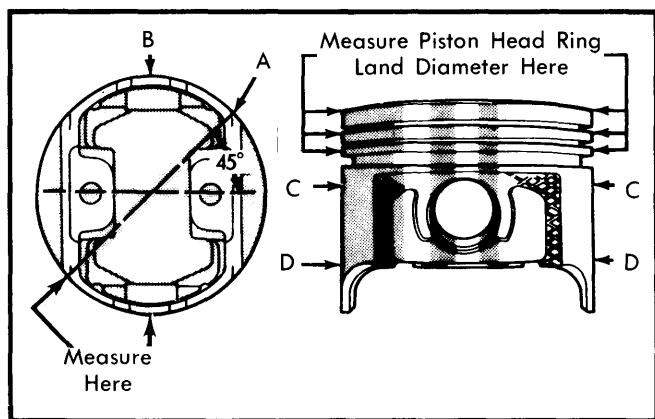

Fig. 8 Measuring Piston Fit
2) Measure pistons with pins removed at points "A", "B", "C" and "D". First, measure point "B". Piston diameter should be 3.443-3.445" (87.442-87.507 mm). Now measure point "A": Due to elliptical shape of piston skirt, point "A" should be .011-.013" (.28-.33 mm) less than measurement taken at point "B". See Fig. 8.